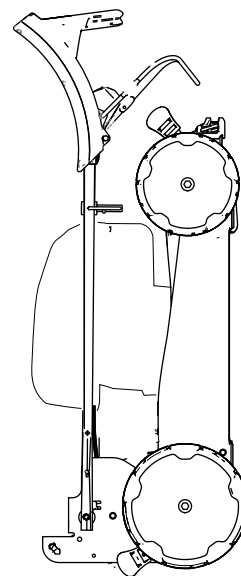

Figure 24
5. Lift the front of the machine by the handle and move it into a storage space (Figure 24).